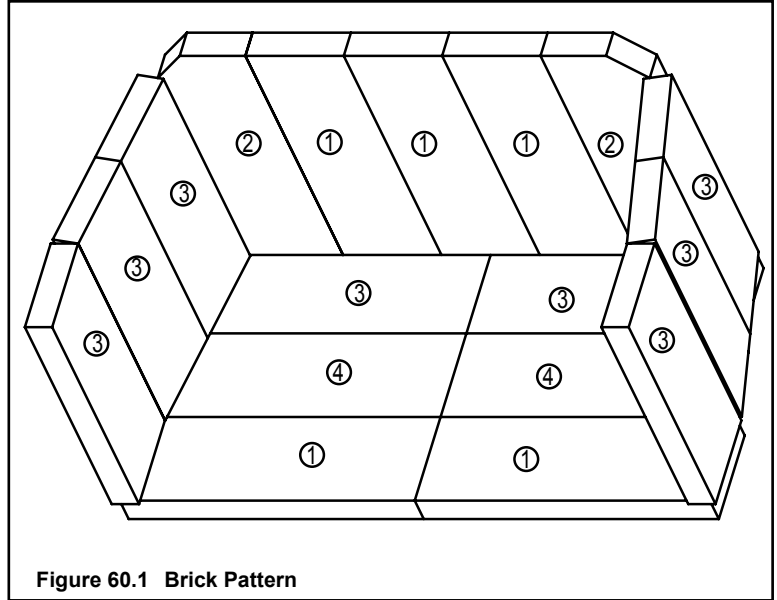

Figure 60.1 Brick Pattern
1. Remove new brick set from box and lay out to diagram as shown in Figure 60.1.